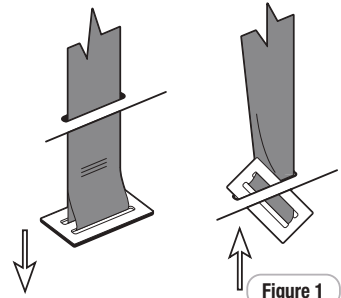

Figure 1
**Step 1:** From the underside of the restraint pull each crotch 3-bar slide then turn 3-bar slide and push through each slot to remove the Harness Buckle from the restraint (refer Figure 1).
- Step 1:** Loosen harness to allow spreader plate to rise from under the restraint. Turn the restraint so that the back of the seat is facing you (refer Figure 1 & 2 on pages 18 & 37).
- Step 2:** Remove each shoulder harness through the gates in the spreader plate (see Figure 1 & 3).